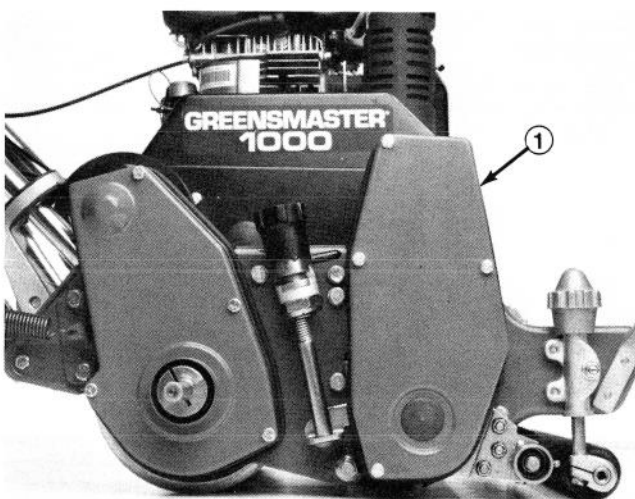

Figure 5
9. Remove (4) capscrews securing reel drive cover to right side plate and remove cover (Fig. 5).